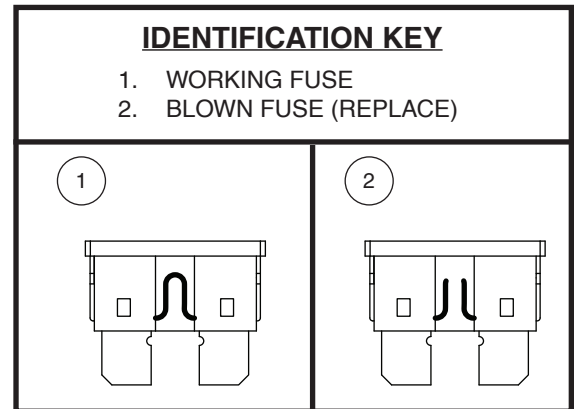

Figure 30. Fuse Replacement
2. Examine the fuse to be sure it is blown. See figure 30.